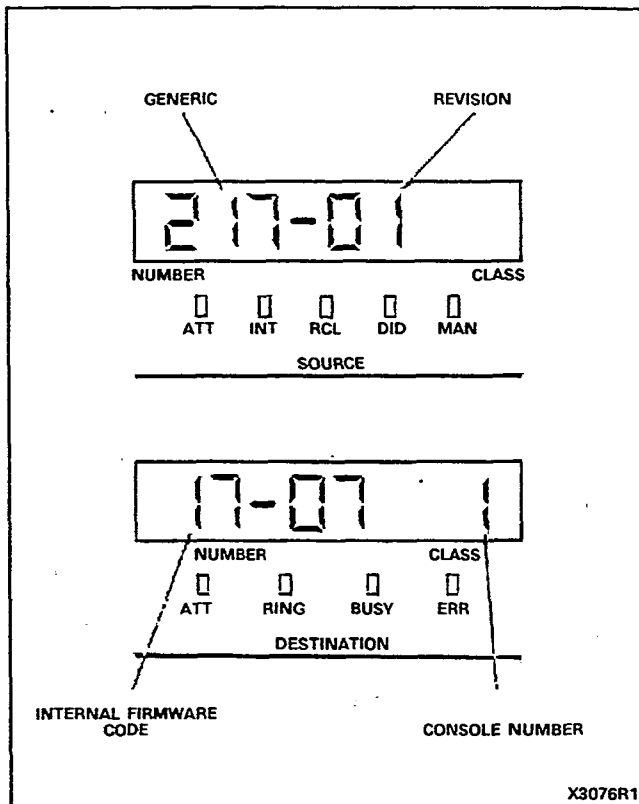

Figure 4-2 Typical Identification Display
4.06 IDENT: Pressing the IDENT button when the console is idle causes the console to display the firmware generic number and its revision level in the SOURCE display, and the internal firmware code and the console number in the DESTINATION display (see Figure 4-2):